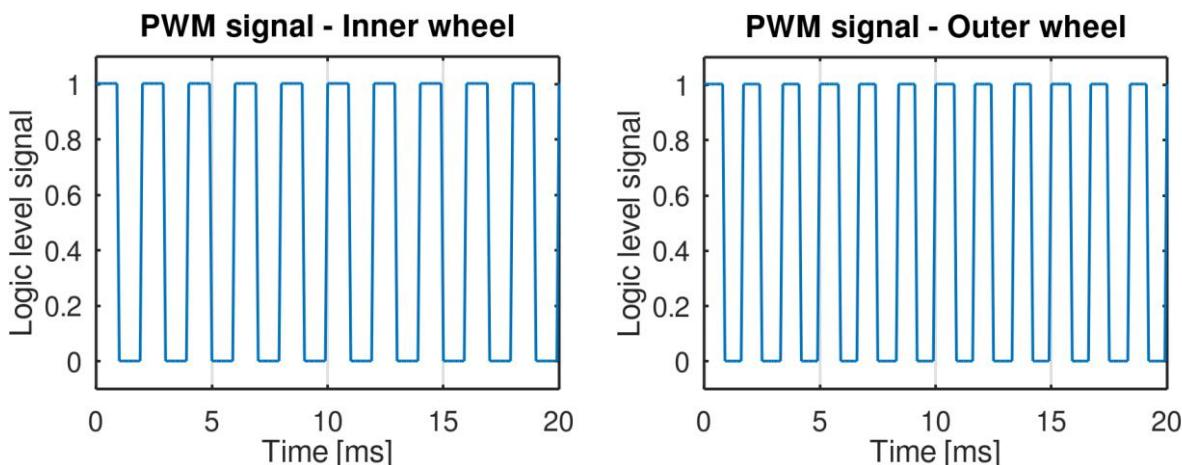

Figure Q4. Signal from encoders of the inner and outer wheel when driving along the turn.
- c) The wheels on the autonomous vehicle have been fitted with encoders, and the vehicle is negotiating a right-hand turn. The signals from the encoders are presented in Figure Q4.
Using the vehicle specification and the information from the graphs in Figure Q4: